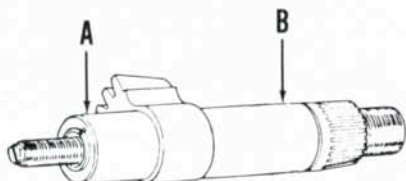

Fig. 39—Wear limit for steering sector shaft bearing journals is 31.90 mm (1.256 inches) at (A) and 27.90 mm (1.098 inches) at (B).
Inspect bearing and seal journal surfaces of sector shaft (26) for wear. Renew shaft if journal diameter (A—Fig. 39) is less than 31.90 mm (1.256 inches) or if diameter (B) is less than 27.90 mm (1.098 inches).